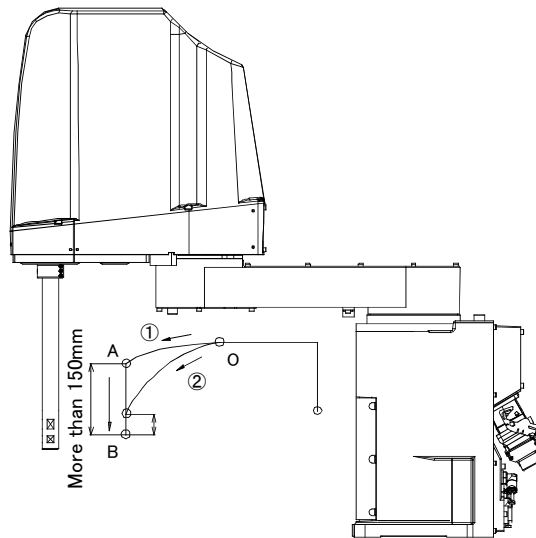

Fig.2-13 : Recommended path when positioning at the bottom edge of the Z axis
- 3) When positioning the work near the bottom edge of the Z axis, if no effectiveness is achieved in step "2" above, perform operation ① (robot path: O → A → C). In the case of operation ② (robot path: O → B → C), residual vibration may occur. (Refer to Fig. 2-13.)